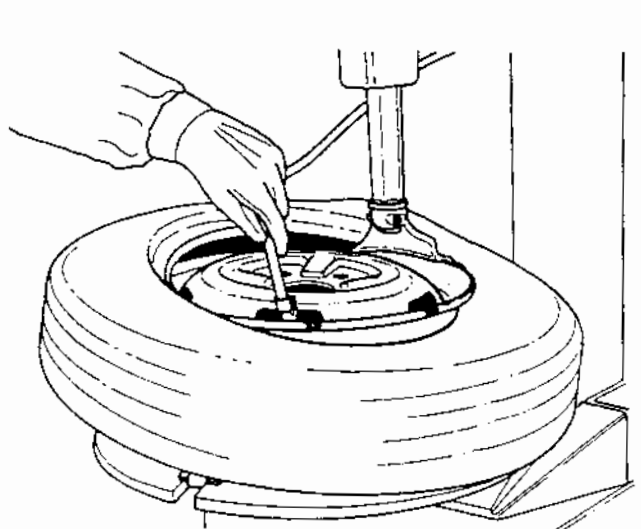

Fig.25
D. Mount the first bead as described in section 4.2.B. Put the tube inside the tire and connect the inflation air line to the tube valve to hold the tube in place. (Fig.25). Mount the top bead following the directions above.